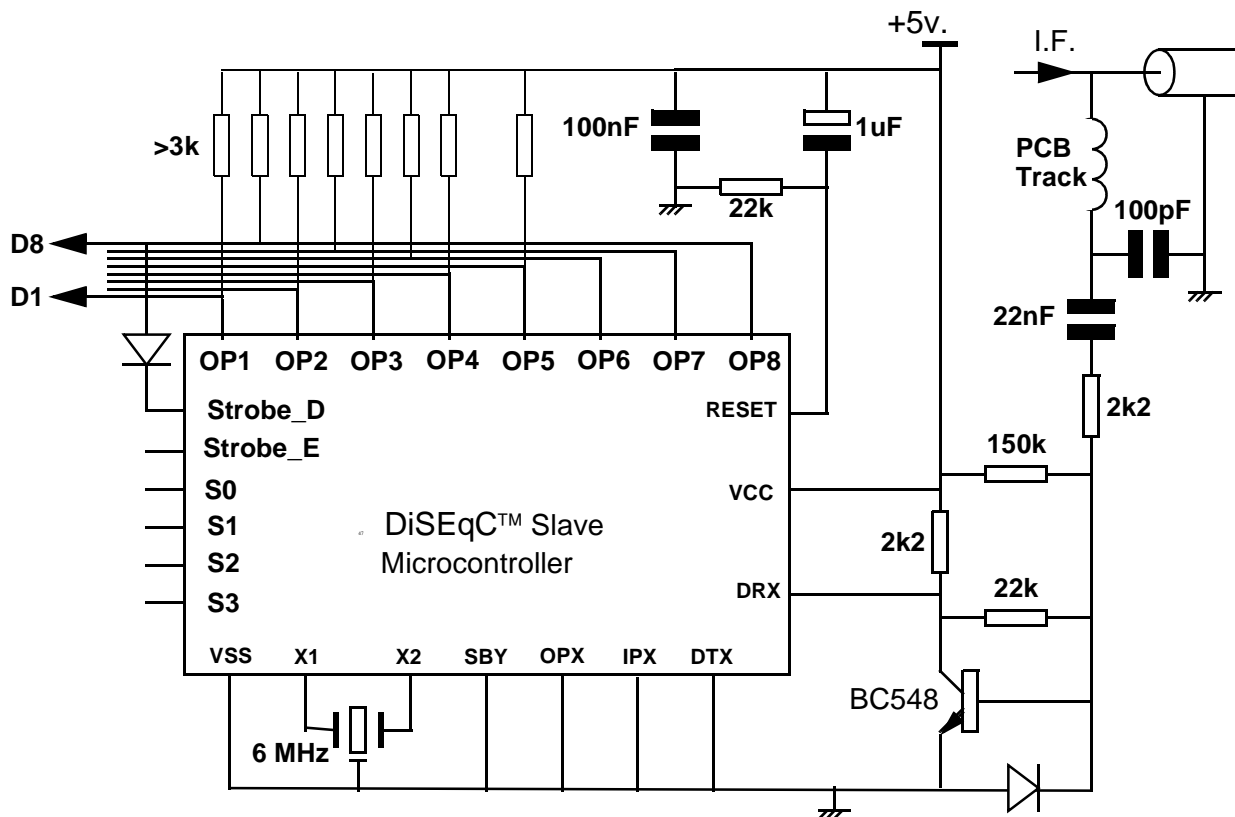
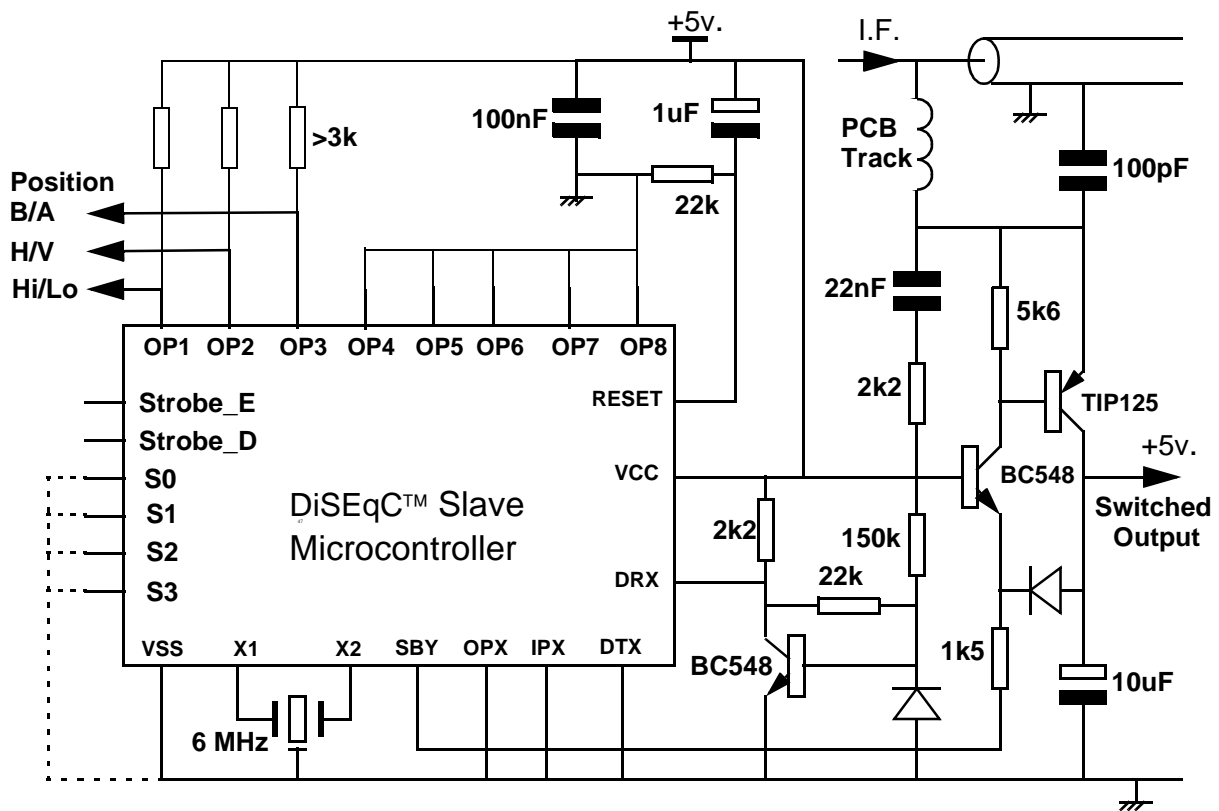

Figure 3
Figure 6
*Figure 3* shows a basic receive-only circuit (i.e. with no reply facility), as might be used in a Low Noise Block (LNB) or Switcher. However, although it is possible to use the slave microcontroller in a receive-only mode, just a few additional components are required to implement the reply capability (*see section 4.*), so we do **not** recommend the reply-only circuit to be used in practice. It is included here to assist with the understanding of the basic circuitry.
Figure 3 shows how the eight outputs of the microcontroller alternatively may be used in a ‘1 of 8’ decoding format. In this mode, just one of the outputs at any time is ‘true’ and the other seven are ‘false’. As before, the pull-up resistors may not be necessary. The method of selecting a decoder mode is by connecting one or more diodes between the Strobe\_E pin and outputs OP 5 to OP 8. In the case shown, the single diode selects decoding of the 3 “virtual” lines which would normally feed OP 1 - OP 3 directly (i.e. those allocated to Hi/Lo frequency, H/V polarisation and satellite Position B/A). See the relevant slave microcontroller data sheet for details of other possible decoding modes, which may include the selection of either “active high” or “active low” for the ‘true’ output.
For clarity, in *Figure 6* the additional components to regulate and control an auxiliary power rail (derived from the bus) have been added to the basic LNB circuit of *Figure 3*. In practice, the standby feature is more likely to be applied to full-featured DiSEqC™ devices